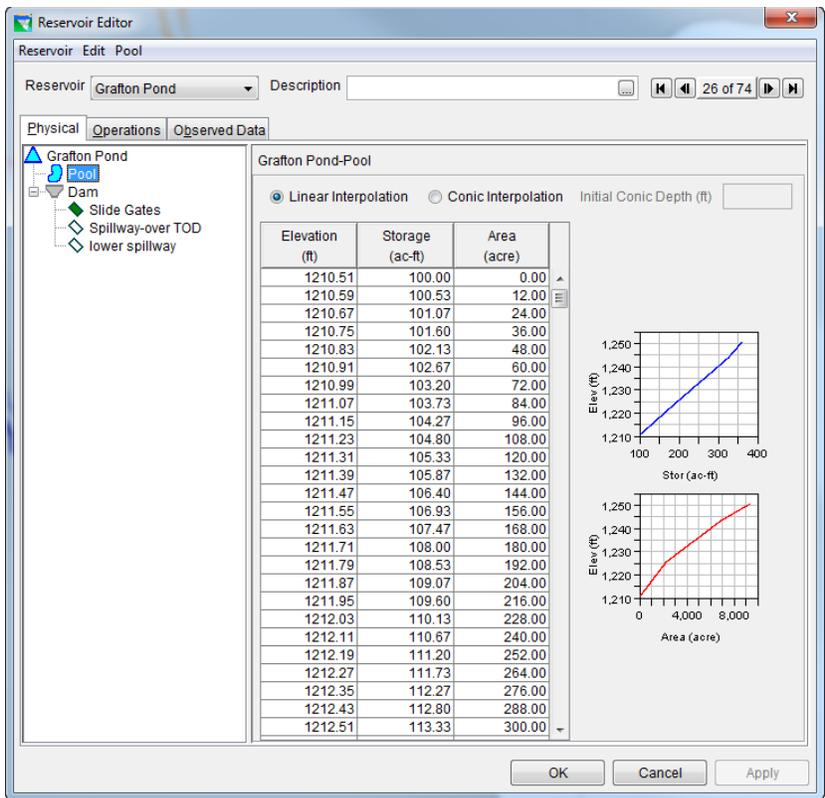
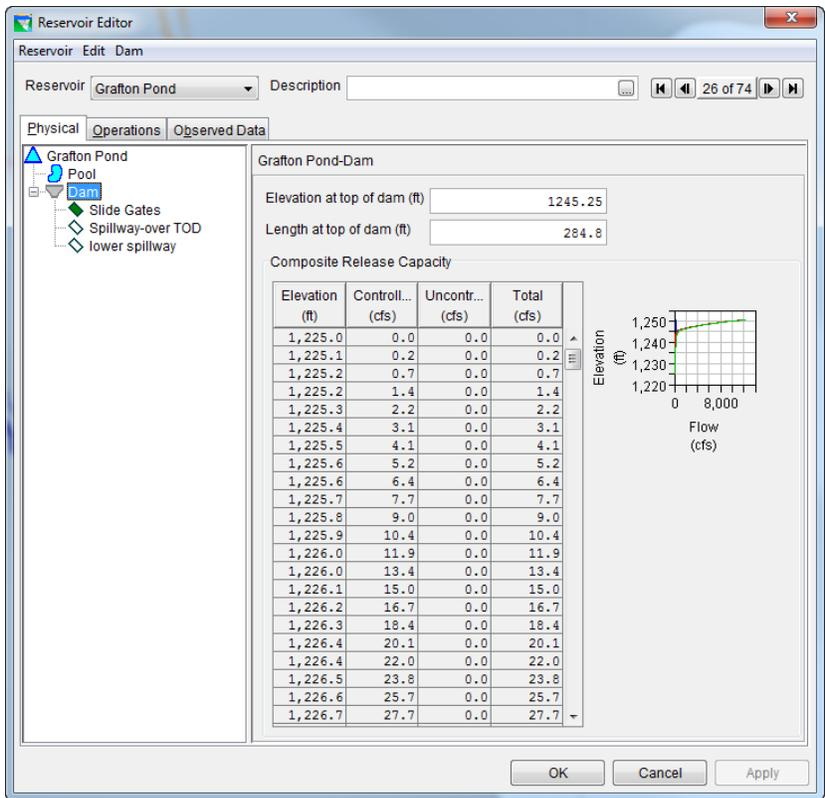

Figure 3: Reservoir Editor: Physical Tab -- Pool
Figure 4: Reservoir Editor: Physical Tab -- Dam
The physical characteristics of the reservoir are separated between the Pool and the Dam in the HEC-ResSim model. The elevation-storage-area defines the pool as shown in Figure 344. The dam consists of three types of outlets: (1) controlled slide gates, (2) uncontrolled spillway-over TOD, and (3) uncontrolled lower spillway as shown in Figure 445.